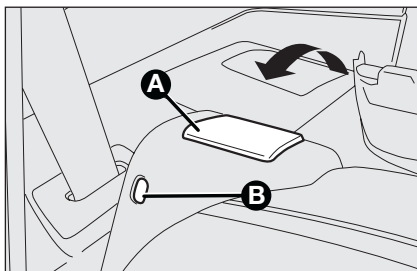

fig. 77
- ☐ raise lever **A**-fig. 77 retaining the backrest and fold it forwards to create an even load compartment. The raising of the lever is shown by a “red band” **B**;